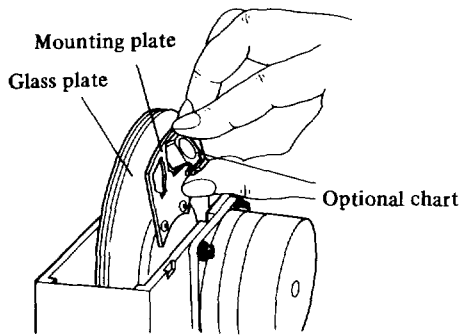
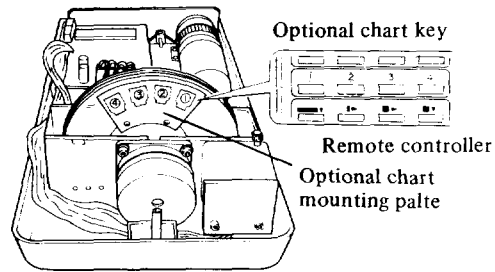

Fig. 6-8
Fig. 6-9
- 3 Fit the optional chart to the optional chart mounting plate as shown in Fig. 6-8. 1 ~ 4 keys of the remote controller correspond to the 1 ~ 4 windows of the optional chart mounting plate as Fig. 6-9.